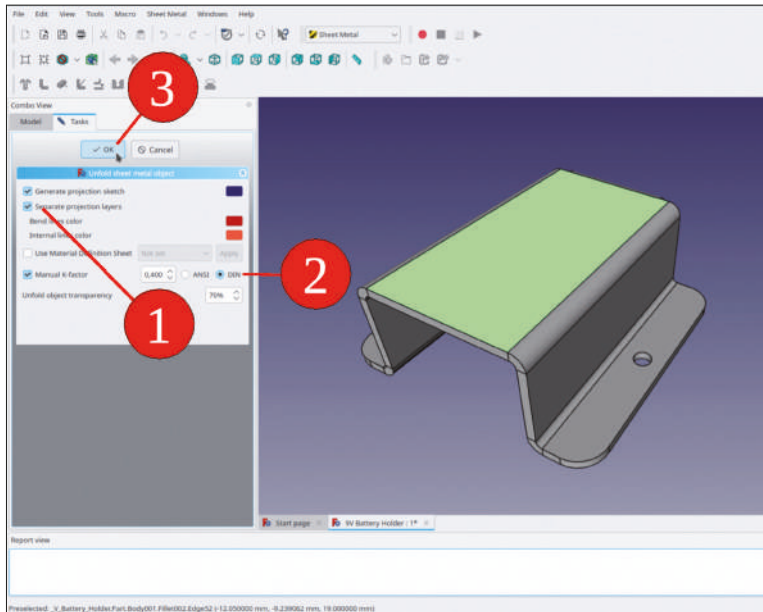

Figure 5-25
30. A task window opens. Check the box for 'Separate projection layers', select DIN, and leave the K factor at its default value (0.4). Then, close the task window with the OK button (Figure 5-25).